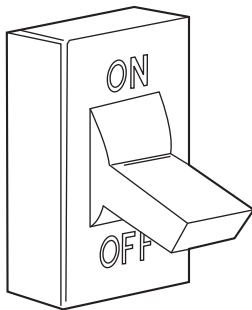

Fig. 9 – Turn Off Electrical Supply
- Turn OFF electrical supply to the furnace (see Fig. 9).